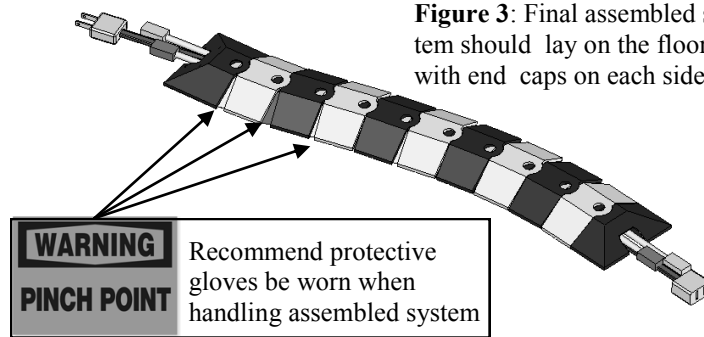

Figure 3: Final assembled system should lay on the floor flat with end caps on each side.
- Lay the Cable Protection System on the floor and check to ensure the system lays flat on the ground with wires properly contained as shown in Figure 3